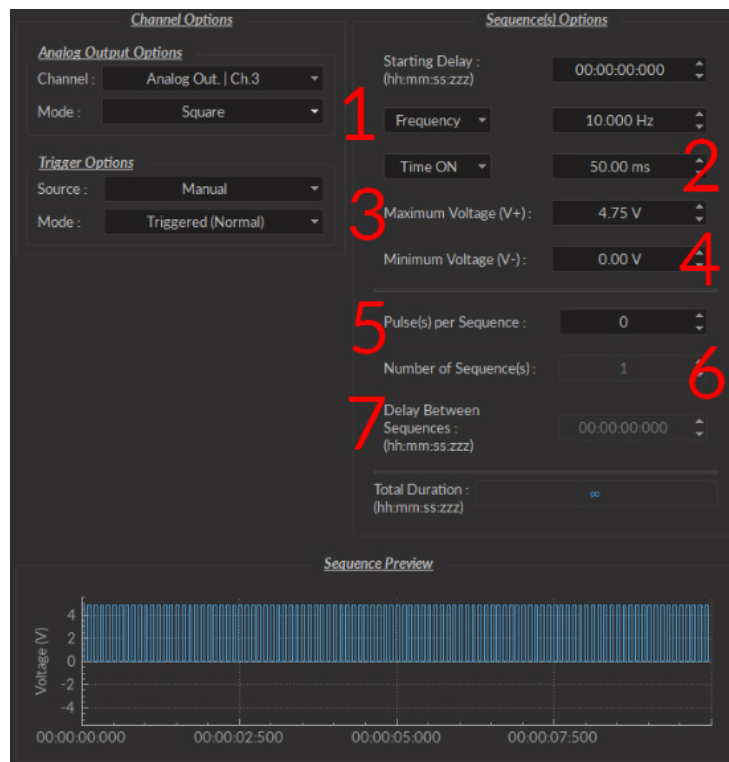

Figure 3.20: Channel(s) configuration window, Analog Output Square
- The **Square** channel mode (Fig. 3.20) creates a sequence of pulses with the minimum of the pulses at **V-** and the maximum of each pulse at **V+**. This includes all sequence options as the **CW** mode, with the following additions.
1. The **Frequency** (Fig. 3.20) sets the frequency (in Hz), which is the number of pulses per second. The frequency can also be changed to the **Period**. For example, a signal at 10 Hz (frequency) will output one pulse every 100 ms (period), whereas a signal at 0.5 Hz (frequency) will output one pulse every 2 seconds (period).
2. The **Time ON** (Fig. 3.20) defines the length of a single pulse. This time can also be converted to a **Duty Cycle**, which indicates the % of the period the pulse duration corresponds to.
3. The **Maximum Voltage (V+)** (Fig. 3.20) defines the maximum voltage of each pulse, in volts. The signal cannot go beyond +4.75 V.
4. The **Minimum Voltage (V-)** (Fig. 3.20) defines the minimum voltage of each pulse, in volts. The signal cannot go beyond -4.75 V.
5. The **Pulse(s) per sequence** (Fig. 3.20) set the number of pulses per sequence. If it is set to 0, the number of pulses will be infinite.
6. The **Number of sequence(s)** (Fig. 3.20) sets the number of times that the sequence will be repeated.
7. The **Delay between sequences** (Fig. 3.20) sets the delay between each sequence.